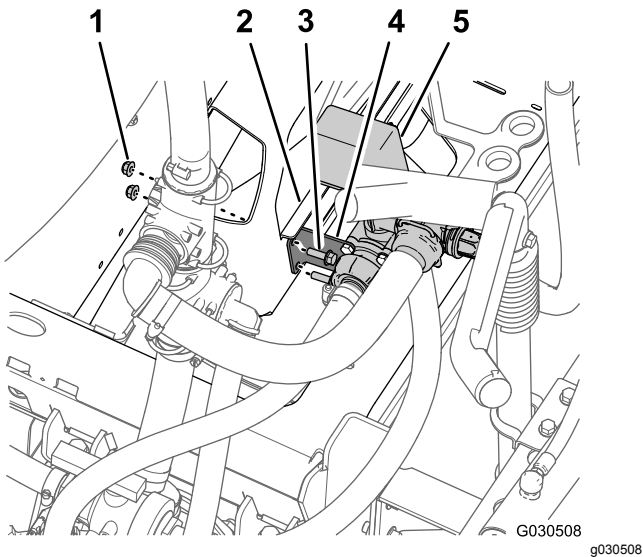

Figure 68
- Remove the 2 flanged locknuts (5/16 inch) and 2 flange-head bolts (5/16 x 1 inch) that secure the support bracket for the agitation valve to the manifold mount (Figure 68).